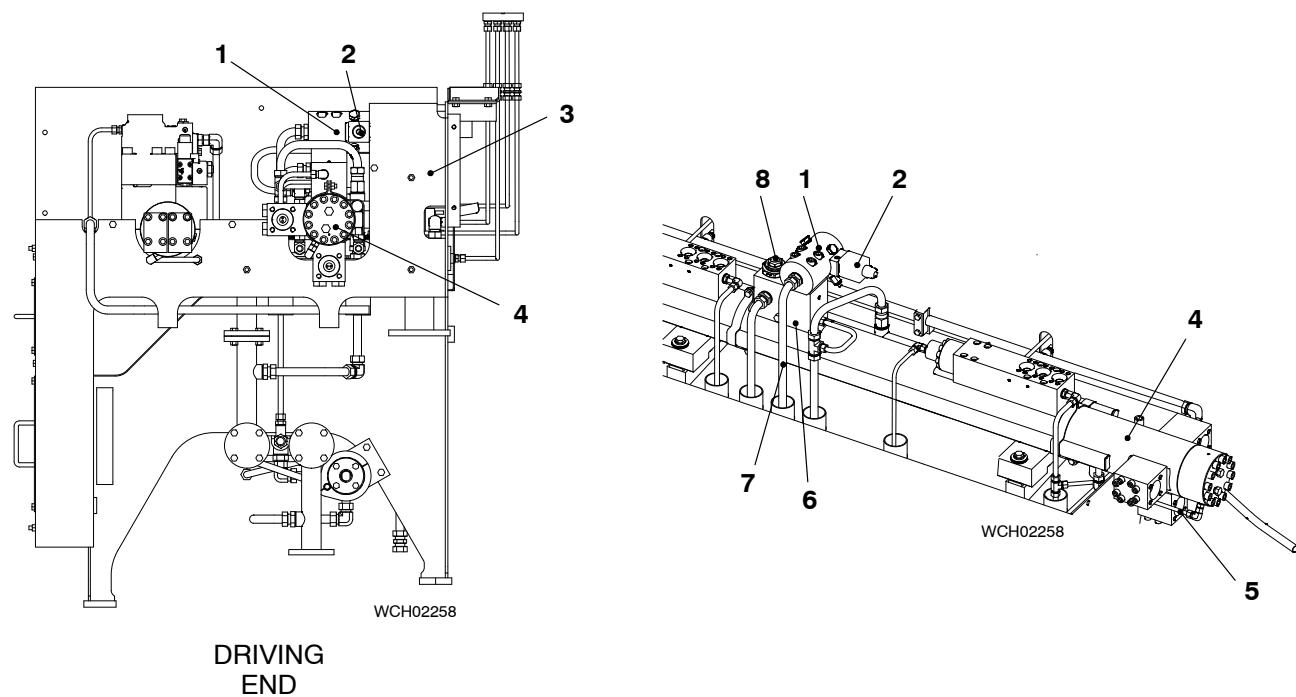

Fig. 1: Location of Pressure Control Valve
- 1) Install the cover (5, Fig. 1).
- 3) Install the HP fuel pipe (2) (refer to the Maintenance Manual 8752–1 paragraph 3).
The engine control system (ECS) controls the fuel pressure. The pressure in the fuel rail is always less than that necessary to open the pressure control valve (PCV). The PCV (1, Fig. 1) is usually closed.